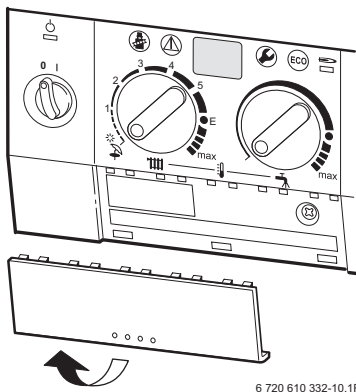

Fig. 23
- ▶ Pull out cover panel at the bottom and remove. Refer to fig. 23.